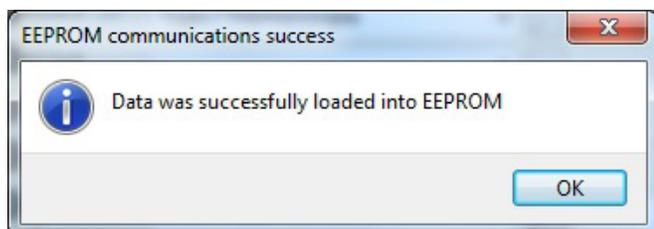

Figure 29. Message Showing Successful Load into EEPROM
- 3) Load the configuration into EEPROM: Go to “Configuration” → “EEPROM” → “Load into EEPROM.” The message in Figure 29 appears if everything worked correctly.